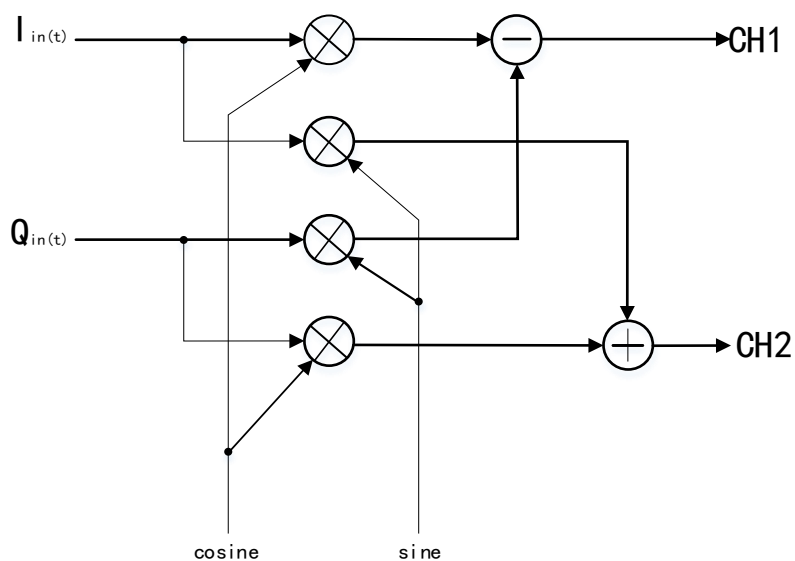

Figure 2-31 IQ Modulator in the SDG6000X
Press **Parameter** → **Center Frequency**, to set the center frequency. The range of center frequency is 0Hz ~ 500MHz. If the center frequency is 0Hz, the two channels will output the IQ baseband signal. If the center frequency is not zero the two channels will output an intermediate frequency (IF) IQ modulation signal whose center frequency is the intermediate frequency. The figure below shows the diagram of the IQ modulator in the SDG6000X Figure 2-31.